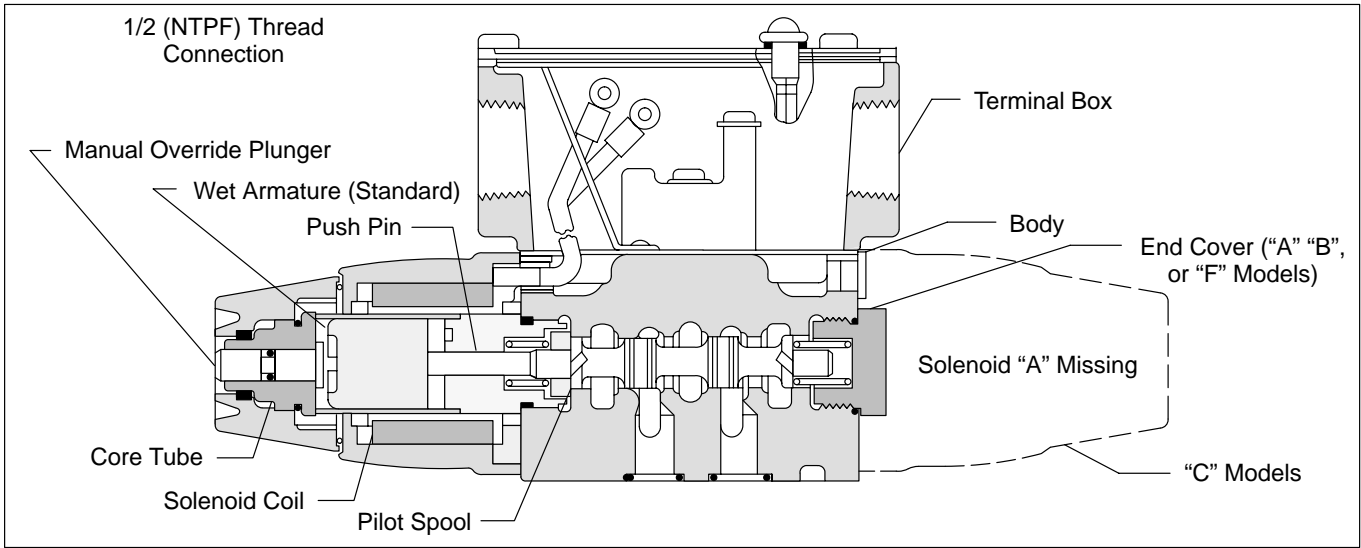

Figure 13a. DG4V-3-40 Pilot Valve, Sectional View
180° from the position shown in Figure 13a. Wire grounding screws are provided for convenience.
g. **Manual Override:** Each solenoid (electrical or air type) has a manual override plunger to shift the pilot spool. This feature allows a technician to shift the pilot spool when electricity or air pressure is not available. Refer to Figures 13a, 13b or 13c. To operate the manual override feature, obtain a small rod and push in on the plunger.